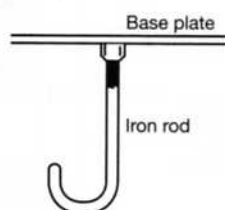

Figure 4
3. The base plate should be prepared by welding four or more 200mm - 300mm long 12mm thick steel rods to it. *See figure 4*